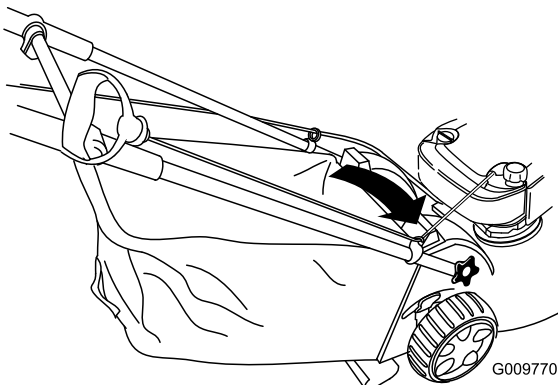

Figure 32
1. Route the starter rope around the lower-rope guide (Figure 32).